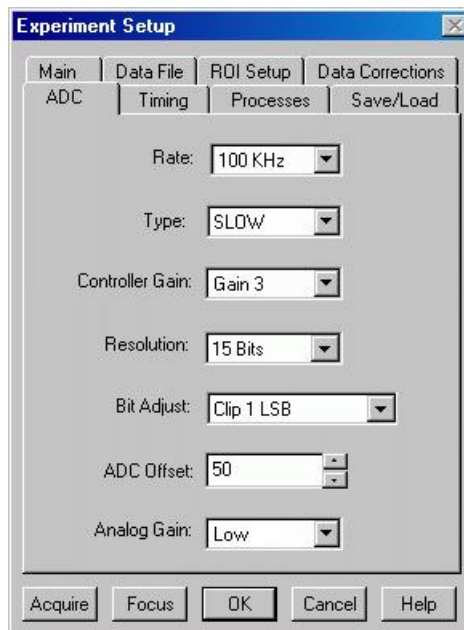

Figure 34. Generic ADC tab page
5. On the **ADC** tab page (Figure 34), set the parameters as they apply to your particular system.